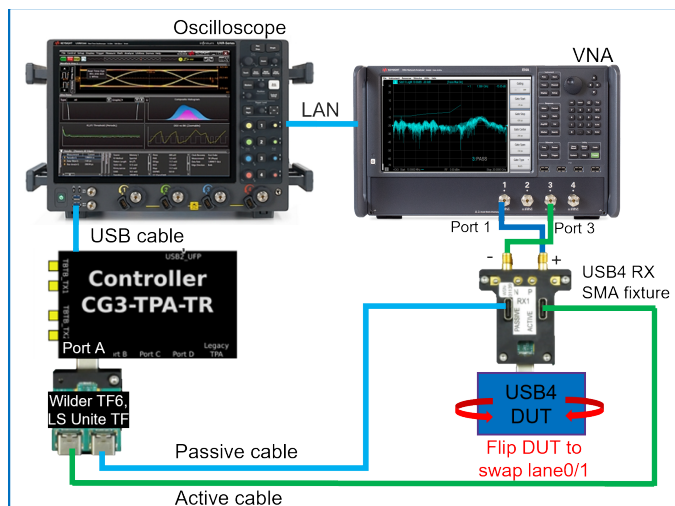

Figure 165 Tx Return loss test setup with Rx SMA test fixture
- 1 For the physical connections between the DUT & the Oscilloscope, see the connection diagrams in Figure 165 and Figure 166.